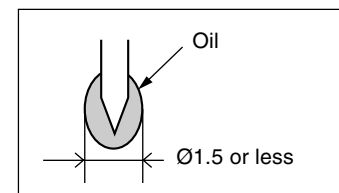

Fig. 1
- The term "One drop of oil" here means the amount of oil on the point of a needle etc. shown in Fig.1.